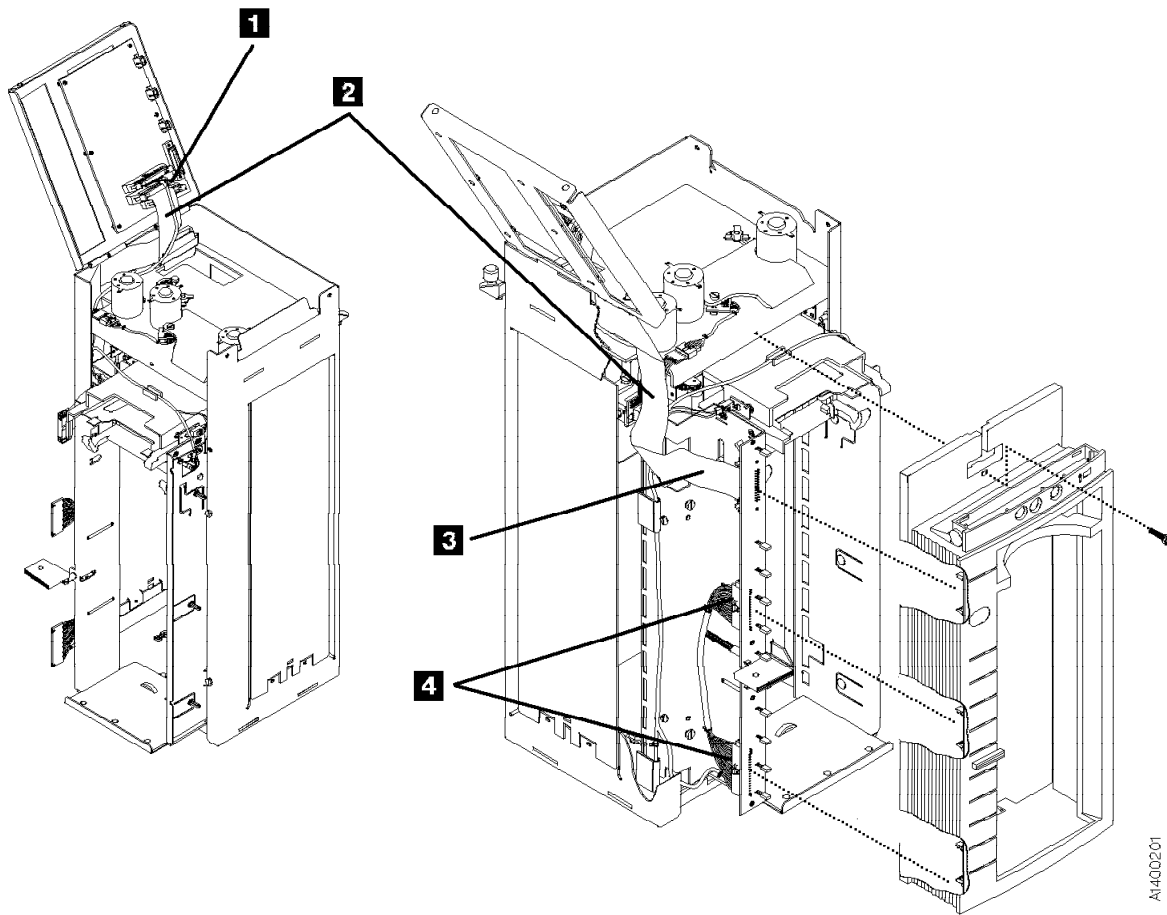

Figure 309. LED Cable
4. See Figure 309. Disconnect the LED ribbon cable connector from connector P2 **1** on the motor control card.